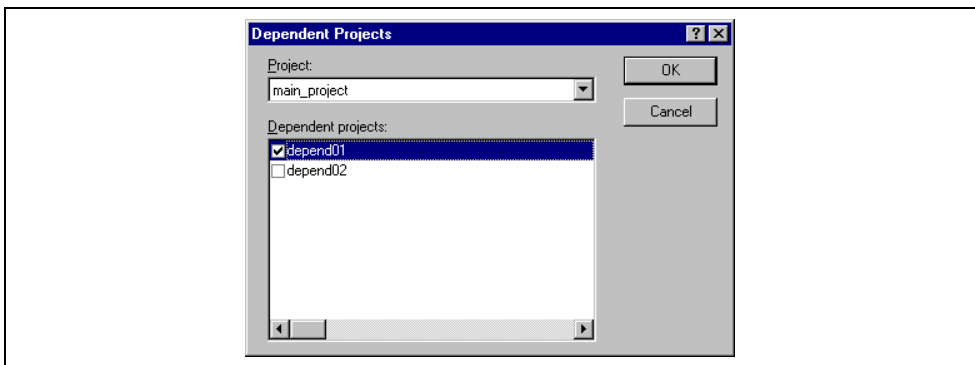

Figure 2.24: Dependent Projects dialog
1. Select [**Project->Dependent Projects**]. The “Dependent Projects” dialog will be displayed.(figure 2.24)